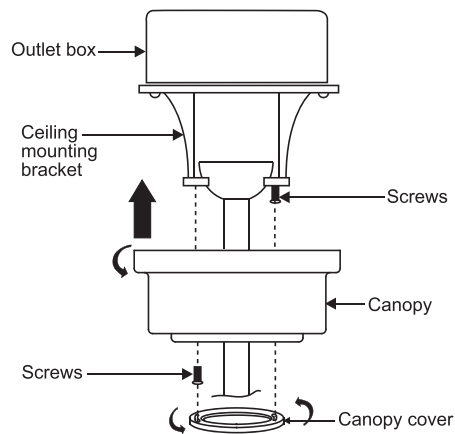

Fig. 15
Step 2. Slide the canopy up to the mounting bracket and place one of the key hole slots over the mounting screw on the mounting bracket. Rotate the canopy until the screw head locks in place at the narrow section of the key hole. (**Fig. 15**)
NOTE: Adjust the canopy screws as necessary until the canopy and canopy cover are snug. (**Fig. 15**)